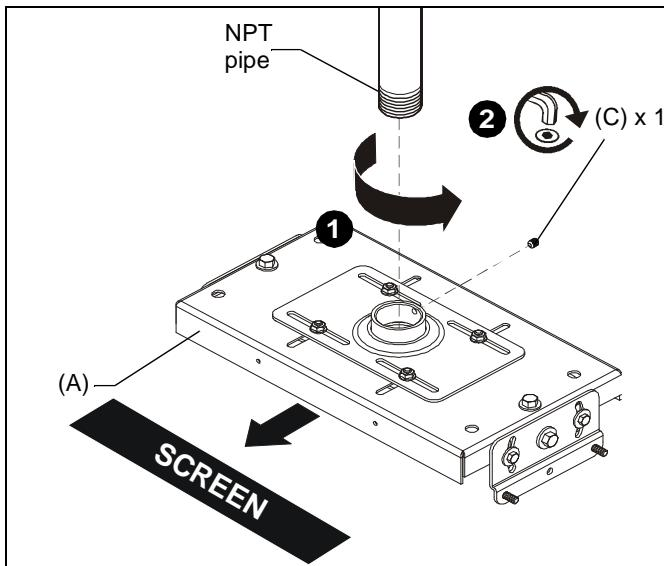

Figure 1
1. Thread the VCM mount (A) onto the existing 1-1/2" NPT pipe until tight with a minimum of four threads engaged. (See Figure 1)
**NOTE:** Ensure that long edge of VCM mount is located parallel to the screen. (See Figure 1)
2. Tighten the 5/16-18 x 3/8" set screw (C) into the VCM mount threaded collar to prevent movement of the VCM. (See Figure 1)